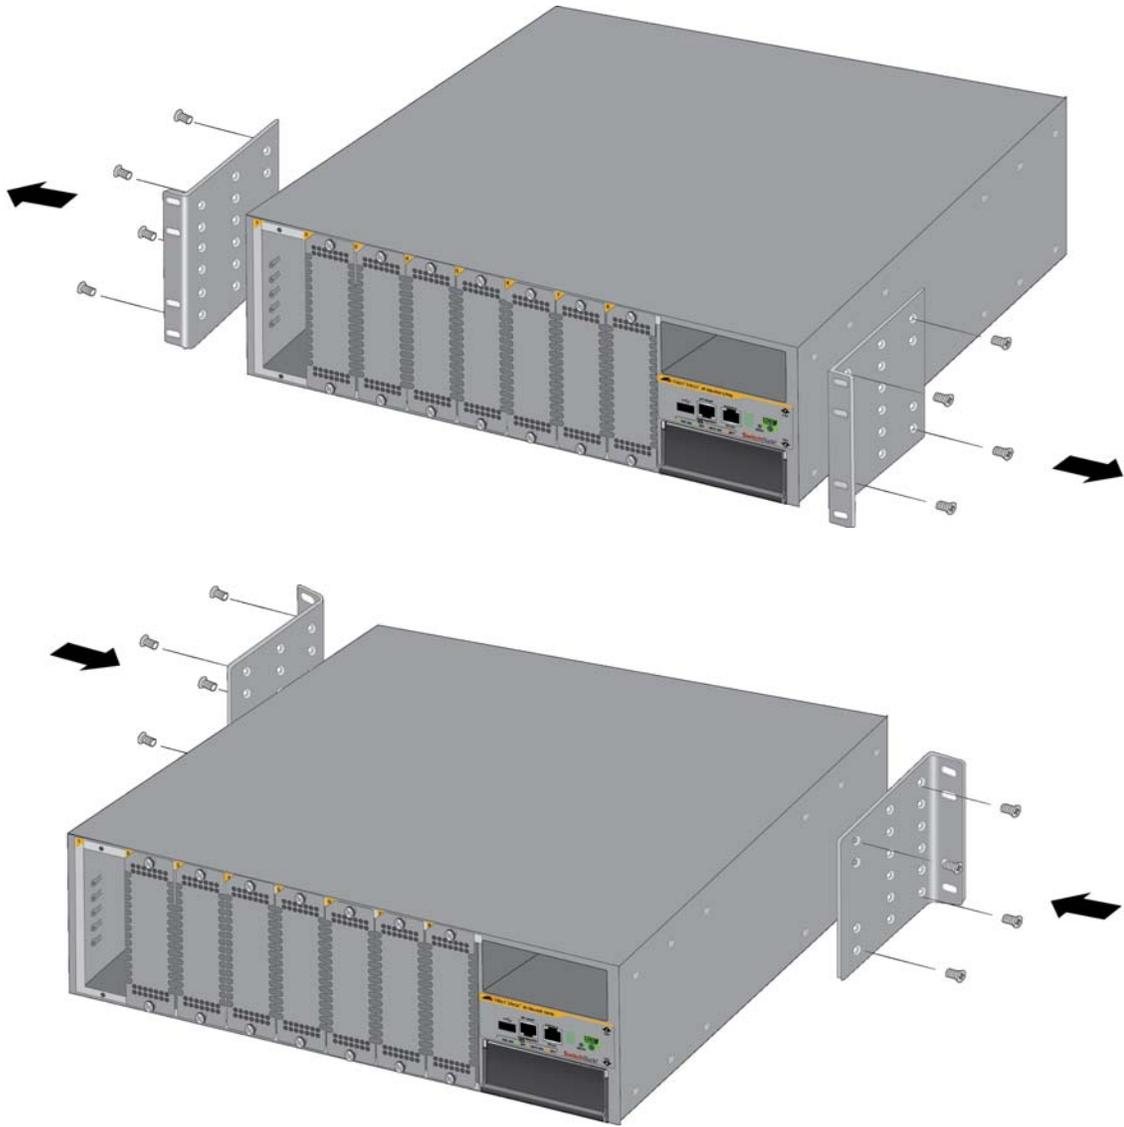

Figure 41. Example of Adjusting the Equipment Rack Brackets
To change the positions of the brackets, use a #2 Phillips-head screwdriver to remove them from their default positions and secure them to the new locations. An example is shown in Figure 41 on page 96.
2. If you want to reposition the brackets from their pre-installed positions, remove them using a #2 Phillips-head screwdriver and secure them in their new position. Refer to Figure 41 on page 96 for an example.